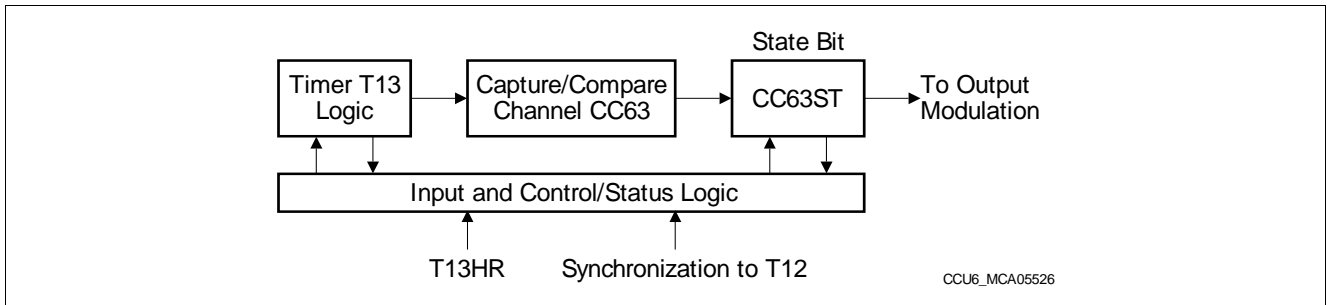

Figure 143 Overview Diagram of the Timer T13 Block
**Figure 143** gives an overview on the T13 channel in Compare Mode. The channel is connected to the T13 counter register via an equal-to comparator, generating a compare match signal when the contents of the counter matches the contents of the compare register.